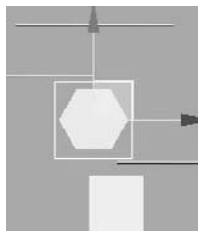

Figure 8.16
3. The Align Selection dialog gives you the choice of aligning an object along any axis, orienting the object (this feature is for rotations), and aligning for the object's scale. Keep the checks in the X,Y,Z position, but change the Current and Target Object to Center and then press OK. The dummy will match up with the shape as shown in Figure 8.16.